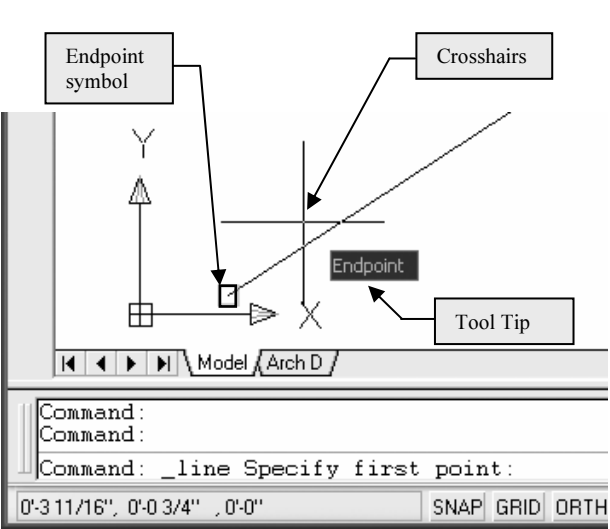

Figure 2-2.6 Endpoint OSNAP symbol visible
- Using the **Line** command, move your cursor to the lower-left portion of the diagonal line. (Figure 2-2.6)